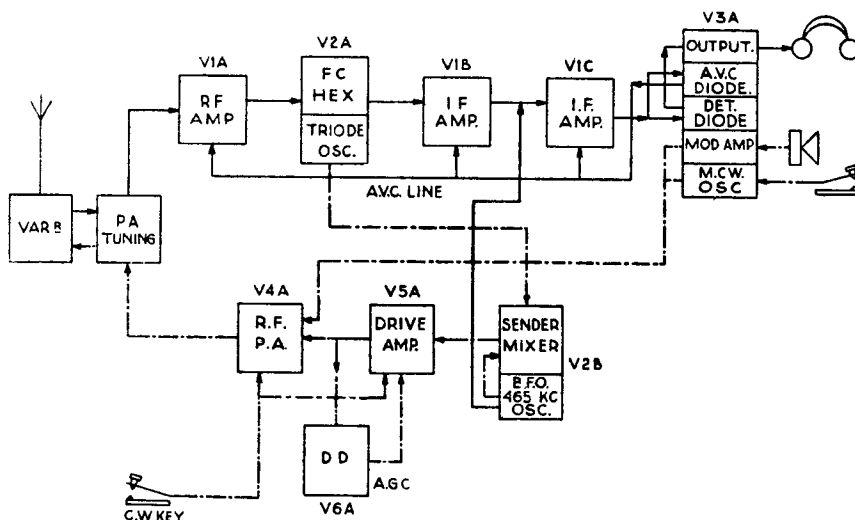

Fig. 1. Block schematic of "A" set sender receiver
**TECHNICAL DESCRIPTION****"A" SET RECEIVER (Figs. 1, 1001 and 1002)****R.F. amplifier**
**"A" SET SENDER (Figs. 1, 1001 and 1003)**